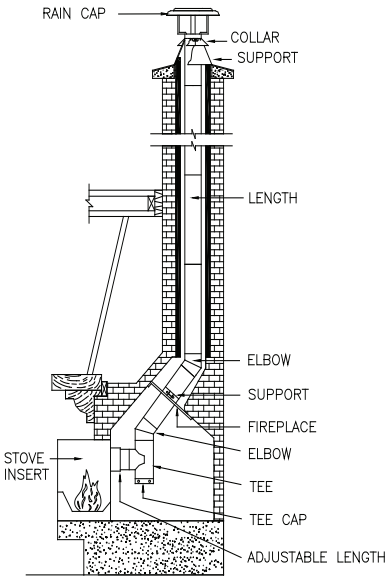

Fig. 9 - Existing fireplace relining installation
- **EXISTING FIREPLACE (fig.9)**